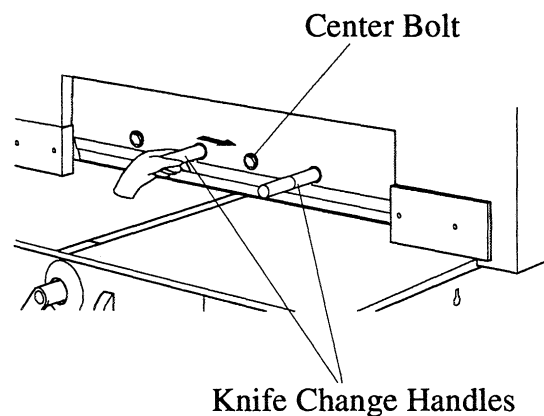

Fig. 4-3
- Install knife change handles in bolt locations #2 and #4. (Fig. 4-3)
- Remove knife securing bolts #1 and #5. (Fig. 4-3)